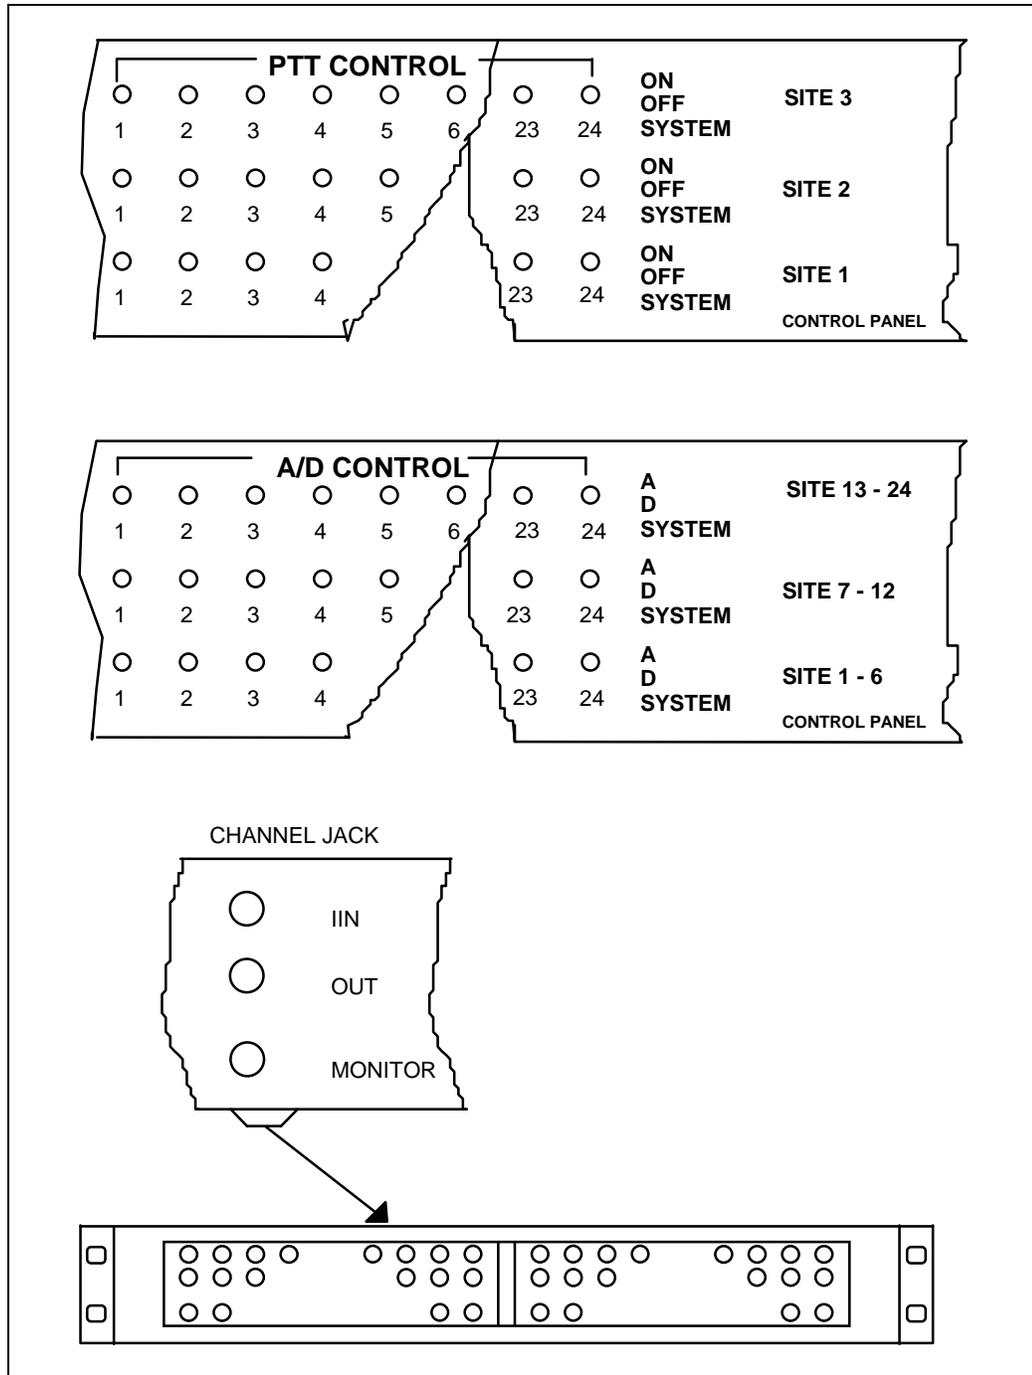

Figure 4 - Jackfield And Control Panel Detail
1. On the control panel, set the following switches (*Figure 4*).